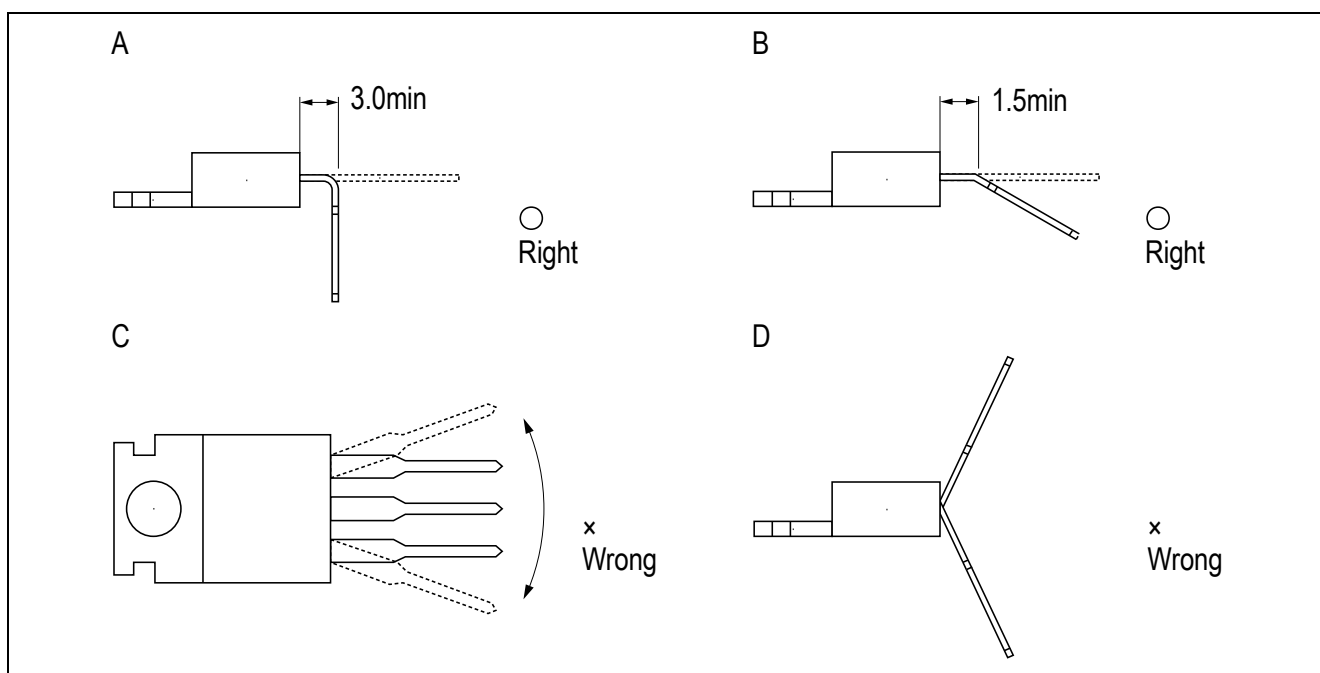

Figure 3 Places and Angles for Lead Bending
- (2) When bending the leads at right angles, make the bend at least 3 mm away from the package end as illustrated in figure 3 (A). Do not bend them more than 90°. When they must be bent less than 90°, allow a space of more than 1.5 mm (See figure 3 (B)).
- (3) Do not repeatedly bend the leads.
- (4) Do not bend them sideways as shown in figure 3 (C).
- (5) A lead of a semiconductor device can be broken by excessive stress (such as tension) in the axial direction, so do not apply more than the prescribed force. The prescribed stress will vary depending on the cross-sectional area of a lead.
- (6) Depending on the shape of the bending jig or tool, the plated surface of an outer lead can be damaged, so exercise caution.